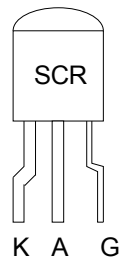

Figure 3 Overall major
- *5. Attach a piece of aluminum or # 30 copper wire across the output terminals as shown figure 3. You will note three 1/4" brass screws for connections on each terminal. Only use one of these screws for this test.
14. Once the Gun is fired ensure that the capacitor is completely discharged. To ensure no recharging of the capacitor occurs (unless you want to fire once more) turn the CHARGE switch off. To discharge the capacitor completely, use the safety discharge lead by connecting it to the upper High potential rail reference figure 3.